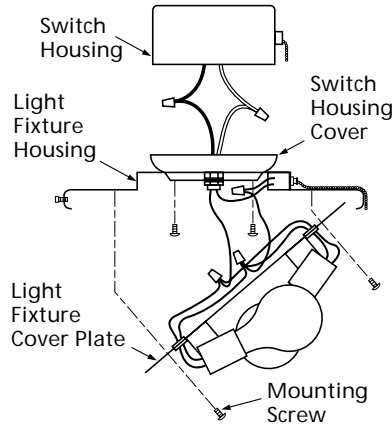

Figure 7c - Attaching Low-Profile Light Fixture
1. Unscrew the two #6 x 1/2" mounting screws to remove the light fixture cover plate as shown in Figure 7c. Do not discard the screws.
3. Using the mounting screws from step 1, assemble the light fixture cover plate and light fixture housing to the fan switch housing as shown in Figure 7c.